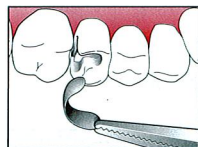

Figure 1
**3. Place contoured sectional matrix band.** Over-approximate tooth curvature by rolling the contoured band with your fingers (Figure 1). This will help keep the matrix band ends from interfering with G-Ring placement. The band should be oriented with the concave edge towards the occlusal margin of the tooth. Slide the band in place from the buccal or lingual side (placing occlusally may impede the band from dropping into place easily).